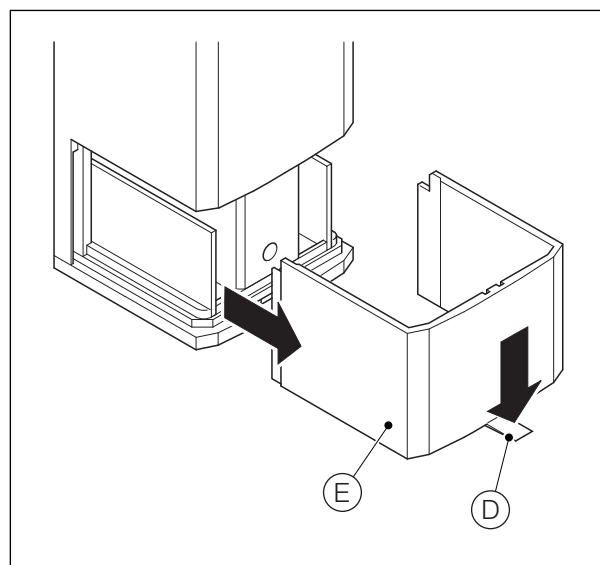
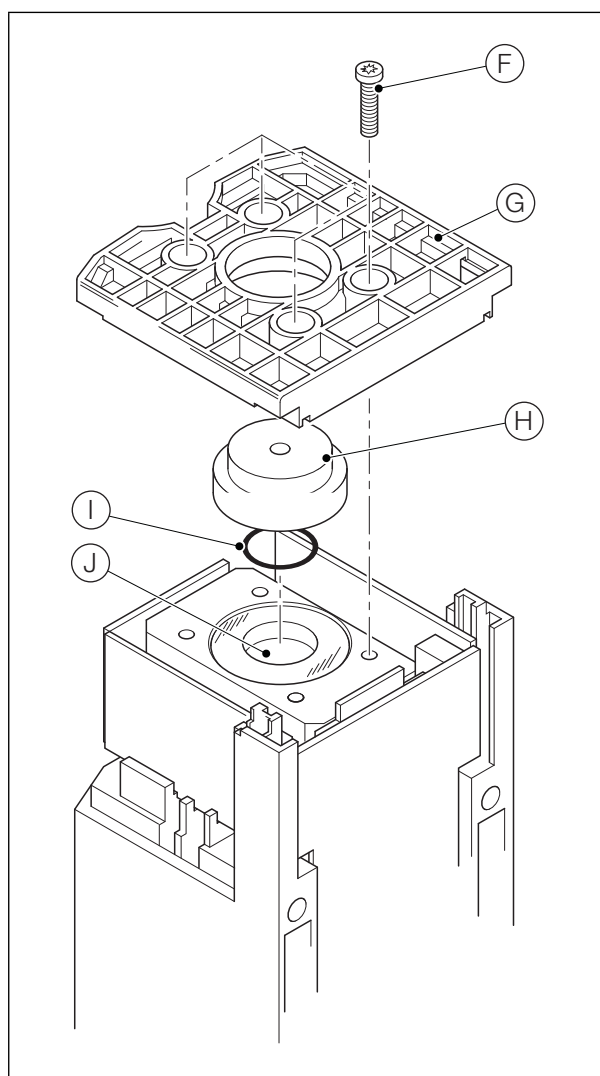

Fig. 13.10 Removing the Measurement Cell Cover
Fig. 13.11 Removing the Measurement Cell Base Plate
3. Referring to Fig. 13.10, depress catch (D) and remove cover (E).
4. Referring to Fig. 13.11,
- a. Invert the measurement cell assembly, remove the four screws (F) and remove the base plate (G).
- b. Remove the sample tube end face sealing cap (H) and remove seal (I). Discard the seal.
- c. Remove all traces of fluid from inside the sample tube (J).
12. Referring to Fig. 13.11,
- a. Fit a new O-ring (I) to end cap (H), ensuring it is located correctly in the groove in the end cap.
- b. Invert the measurement cell assembly and position end cap (H) over the end of the sample tube (J).
- c. Refit base plate (G) ensuring that the end cap is centered in the hole in the base plate. Secure the base plate with the four screws (F).
13. Referring to Fig. 13.10, refit cover (E).